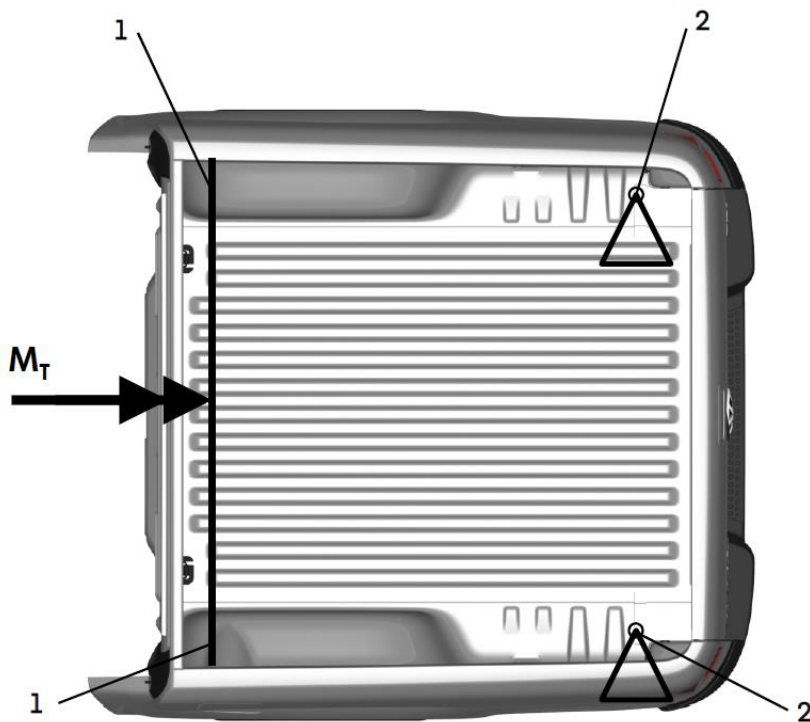

Fig. 4.3.3: Determining the static torsional rigidity for the cargo box
- When replacing the cargo box with other bodies, the maximum static torsional rigidity for the body may not exceed that for the cargo box. For the Amarok Single Cab $C_T=1,200 \text{ Nm/}^\circ$ and for the Amarok Double Cab $C_T=1,300 \text{ Nm/}^\circ$. The static torsional rigidity can be determined in a test. (see Fig. 4.3.3).
The static torsional rigidity can be determined in a test. (see Fig. 4.3.3).